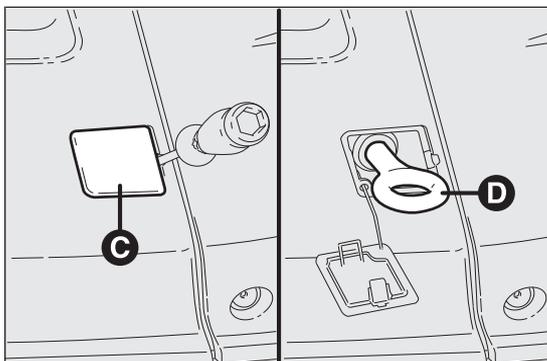

fig. 223
- take the screwdriver provided from the box and prise up at the point shown to raise the cap C fig. 223;
- take the tow ring D from the box and screw it onto the threaded pin fig. 223.